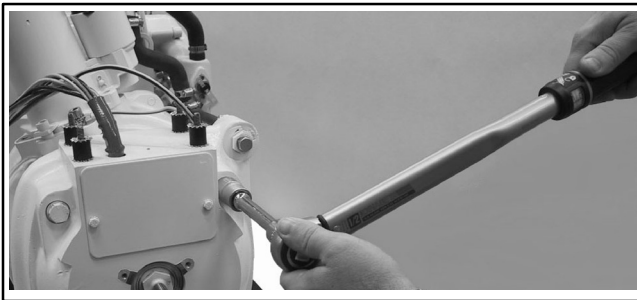

Figure 10-21 Alternator Connection
5. Tighten the four M10 x 140 screws at the specified torque. See section 1.5. See Figure 10-21.